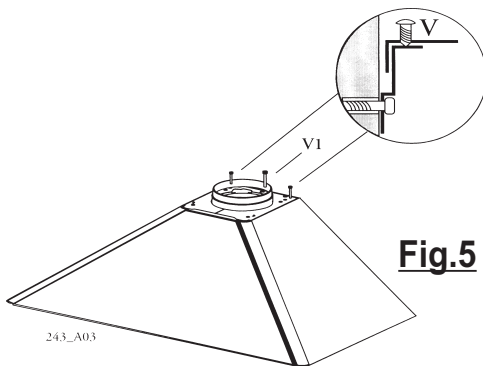

Fig.5
1. Adjust the two screws V on the top of the canopy to about halfway as illustrated in Fig. 5.
2. Hook the canopy onto the wall bracket 1 and push down until the canopy adjusting screws V rest on the bracket, turn the screws to adjust the canopy vertically and level it horizontally as illustrated in Fig. 5.
4. Insert the screw V1 into the central hole to lock the canopy in to position as illustrated in Fig. 5.